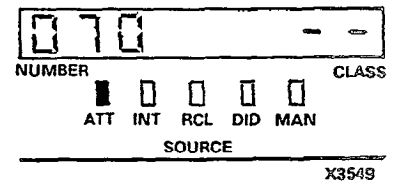

Figure 300-1
* SOURCE display (Figure 300-1) shows number of calling trunk and ATT lamp lit